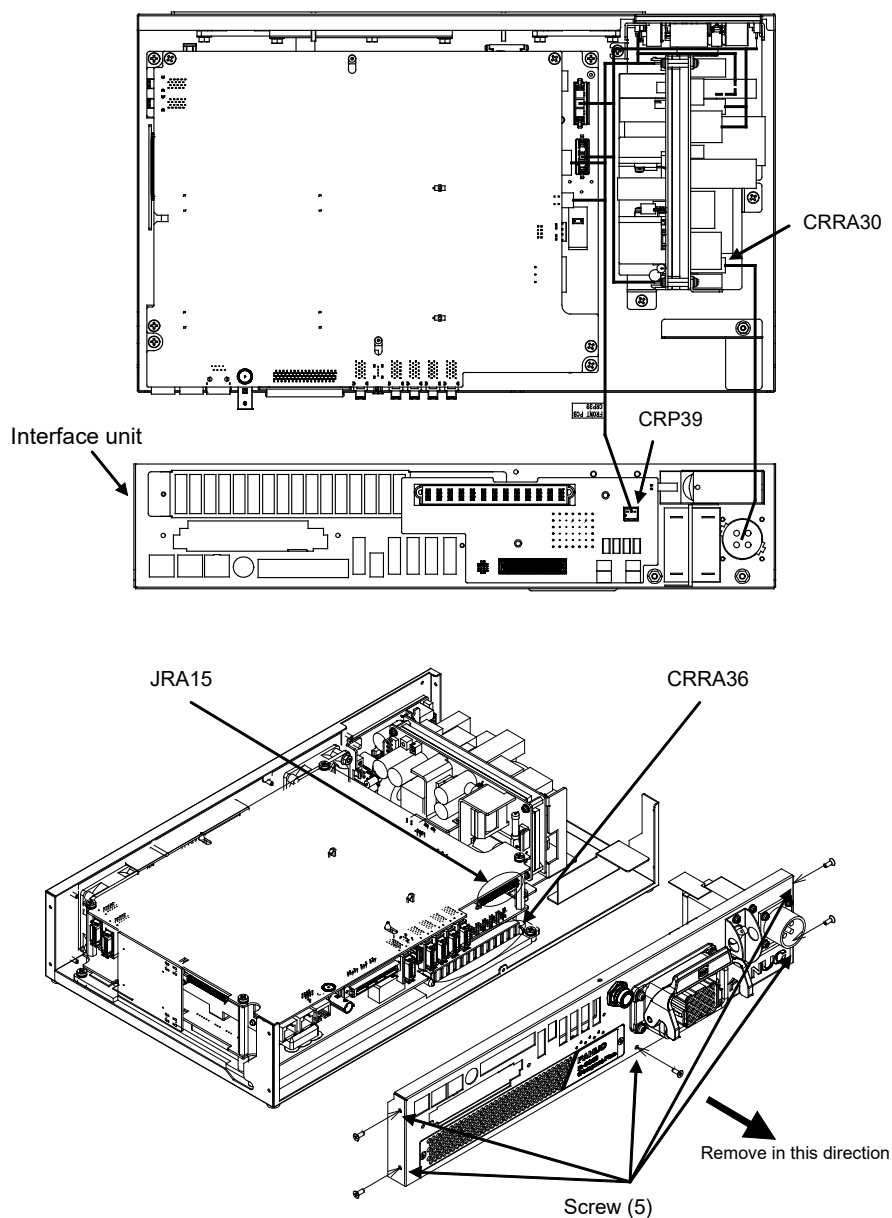

Fig.7.4 (a) Replacing the interface unit
- (1) Remove the top plate. (See Subsection 7.1.1)
- (2) Detach the cables from connector CRP39 of the interface unit and connector CRRA30 of the input unit.
- (3) Remove (5) screws.
- (4) To disconnect JRA15 and CRRA36 connector, move the interface unit slowly in the arrow direction (Fig. 7.4 (a)).
- (5) Replace the interface unit.
- (6) Reconnect the cables.